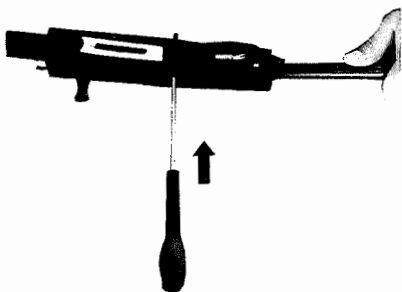

Fig. 25
4. Push the trigger guard pin out of the stock/receiver assembly using an appropriate punch from left to right. (Fig. 25)